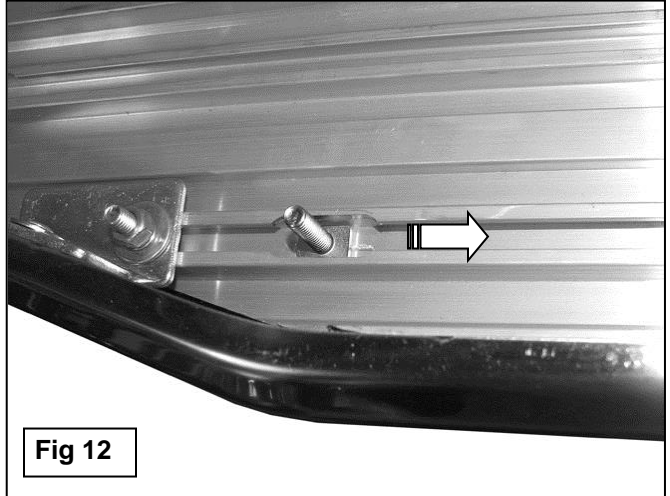

Fig 12
11. Select the driver/left side Running Board. Insert (2) 6mm T-Bolts into each slot and slide them down the channel in the bottom of the Board and into approximate position in line with the Brackets, (**Figure 12**).